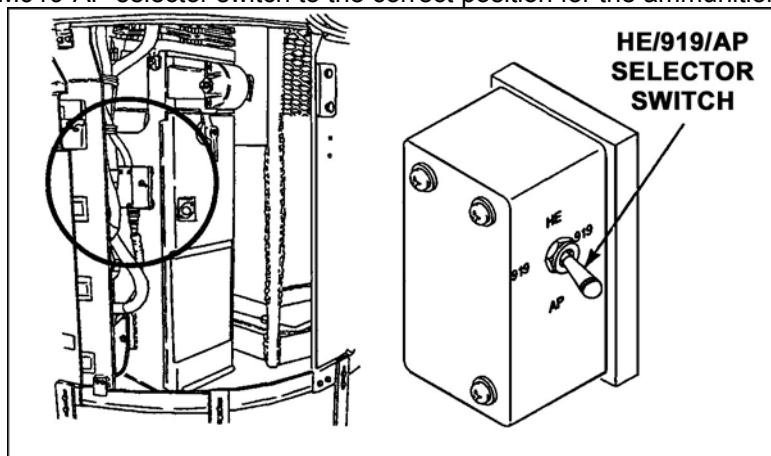

Figure 7. Selector switch.
14. Move the HE-M919-AP selector switch to the correct position for the ammunition loaded (Figure 7).